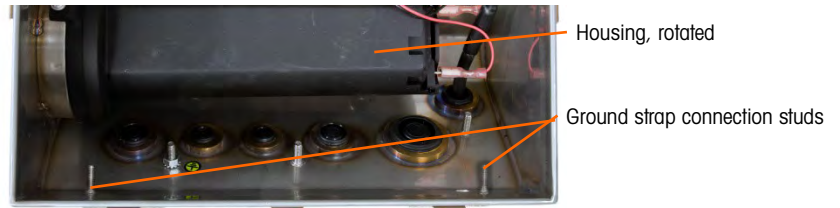

Figure 2-9: Housing Reversed
6. Carefully rotate the housing 180 degrees and use the nuts removed in step 4 to reattach the two grounding straps to the studs near the grip bushings (Figure 2-9). Tighten the two nuts.